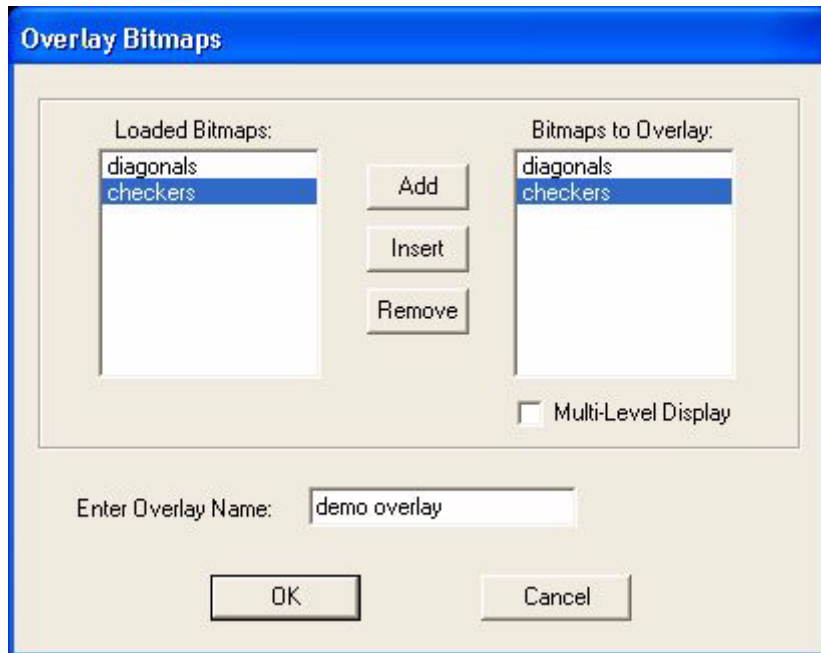

Figure 8-68. Overlay Bitmaps Dialog Box
- 1 Selecting the Action > Overlay command or  toolbar button displays the Overlay Bitmaps dialog box (similar to Figure 8-68).
- 2 Selecting diagonals in the Loaded Bitmaps pane and then the **Add** button adds it to the Bitmaps to Overlay pane. Repeating the process with the checkers bitmap adds it also to the Bitmaps to Overlay pane (similar to Figure 8-68).